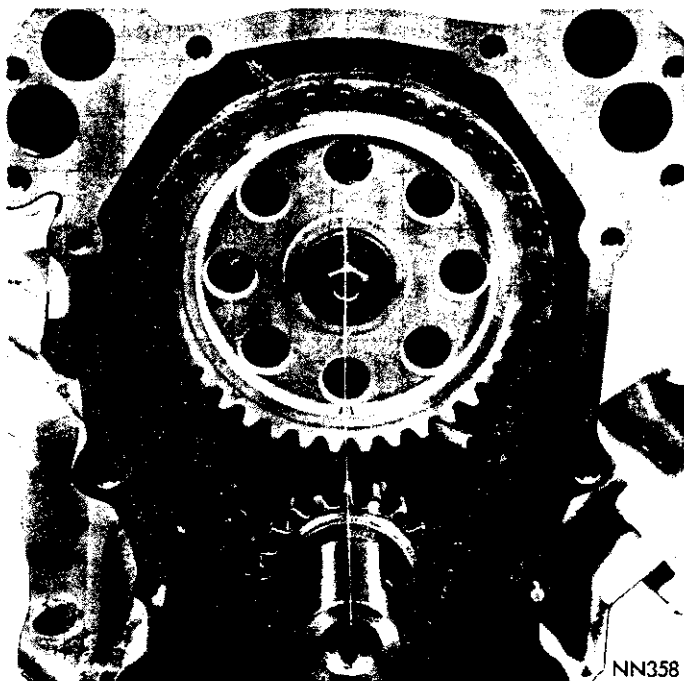

Fig. 22—Alignment of Timing Marks
(11) Slide both sprockets evenly over their respective shafts.
(12) Use a straight edge to measure alignment of timing marks (Fig. 22).
(13) Install washer and camshaft sprocket bolt, tighten to 35 foot-pounds. Check to be sure that rear face of aluminum camshaft sprocket is **flush** with end of camshaft. Slide the crankshaft oil slinger over shaft and up against sprocket (flange away from sprocket).